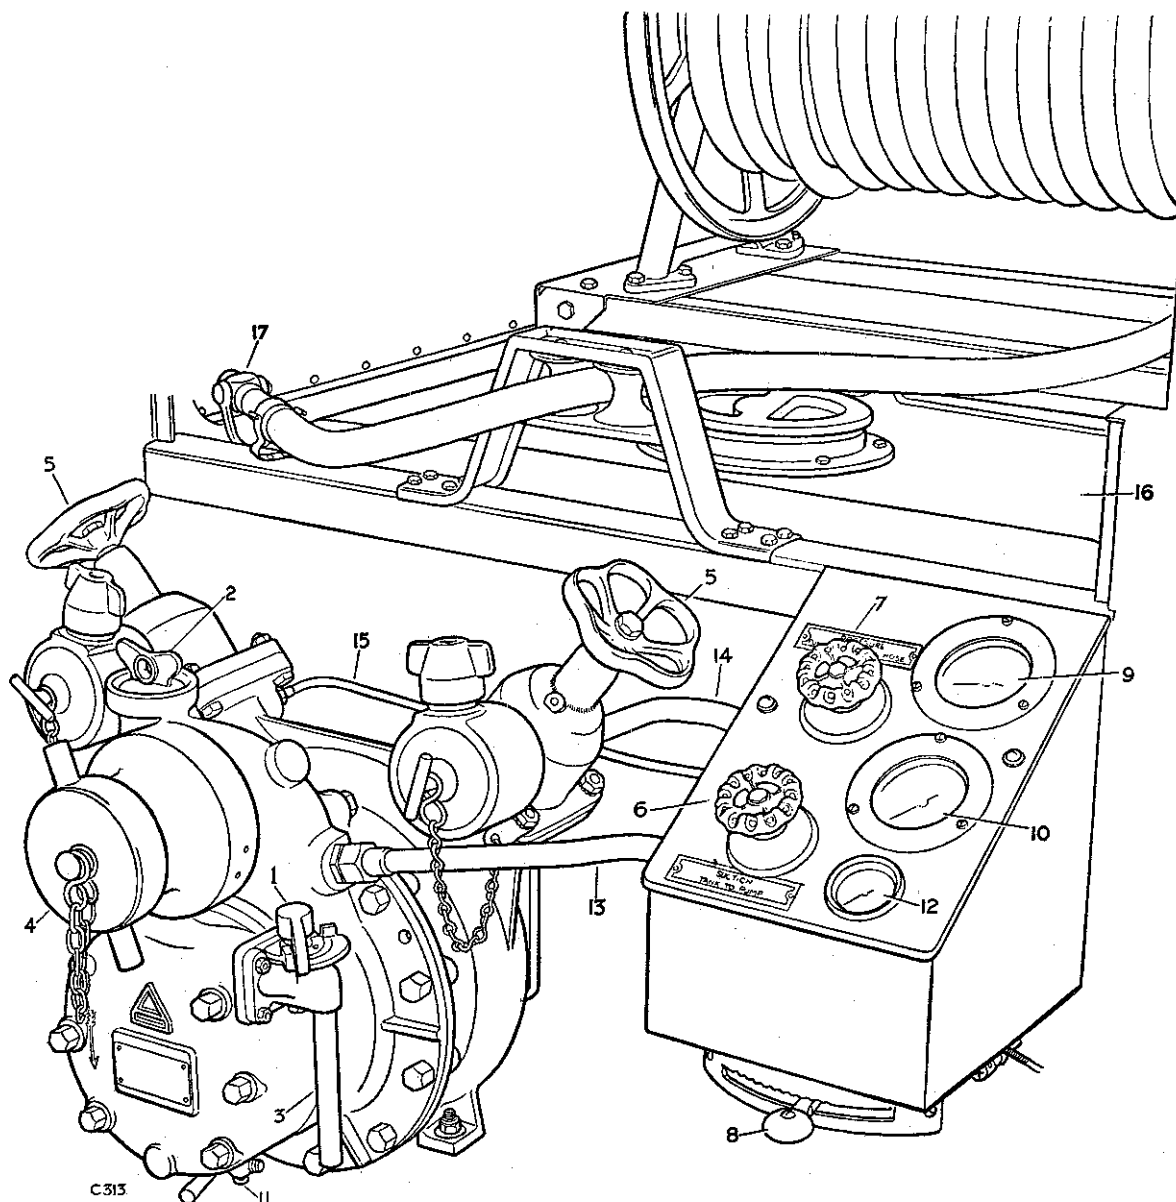

Fig T-42—Pump and controls
To prime the pump (Fig. T-42) Operation T/68
1. Select the "Priming" position with lever (1) and remove wing cap (2); pour water into the filler neck until it flows from the exhaust pipe (3), then replace the wing cap. See Fig. T-42.
To engage the pump drive (Fig. T-42)**Operation T/70**
To pump from first-aid tank (Fig. T-42)**Operation T/72**
To fill first-aid tank from a hydrant (Fig. T-42)**Operation T/74**
To pump from a static water supply (Fig. T-42)**Operation T/76**
To pump from a hydrant or gravity feed supply (Fig. T-42)**Operation T/78**
To temporarily stop output (Fig. T-42)**Operation T/80**
Precautions to be taken when pumping**(Fig. T-42)****Operation T/84**